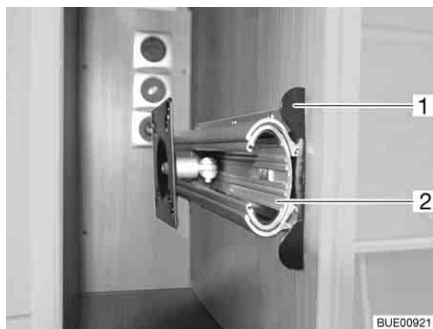

Fig. 73 Holder in the TV cabinet
- Push the unlocking bar (Fig. 73,1) in.
- Pull out the extension (Fig. 73,2) as far as possible.
- Push in the extension (Fig. 73,2) until the unlocking bar (Fig. 73,1) engages.